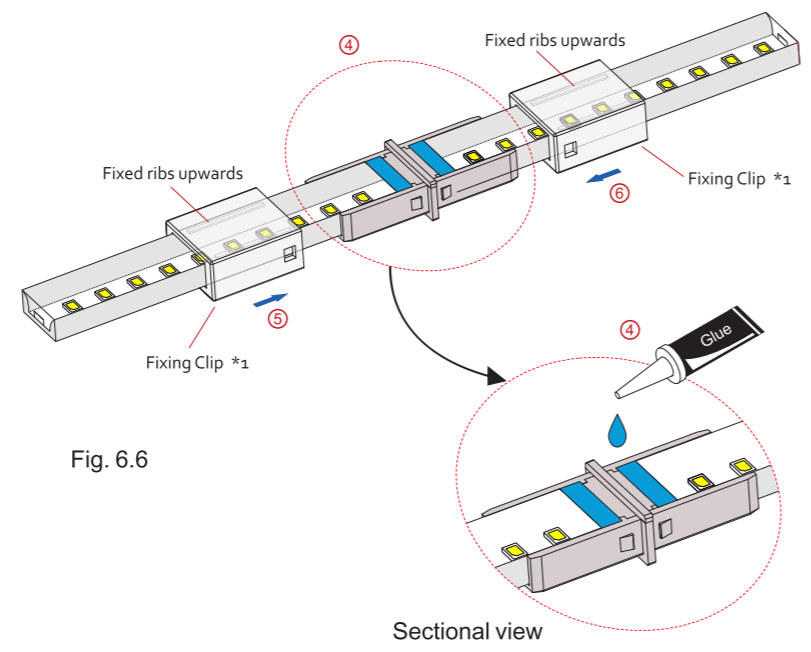

Fig. 6.6
- Fig. 6.6 — Inserting the adhesive silicon glue, and make IP65 Waterproof.